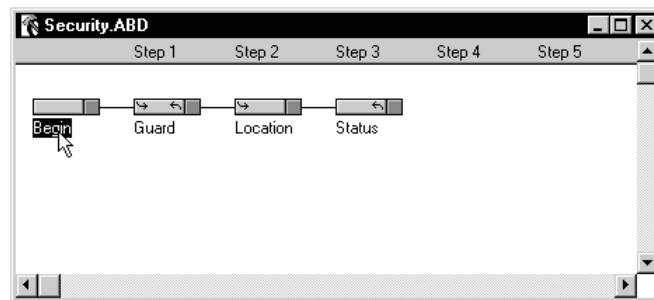

Figure 4-30 “Begin” Handler Selected
2. Select the “Begin” Handler (Figure 4-30).